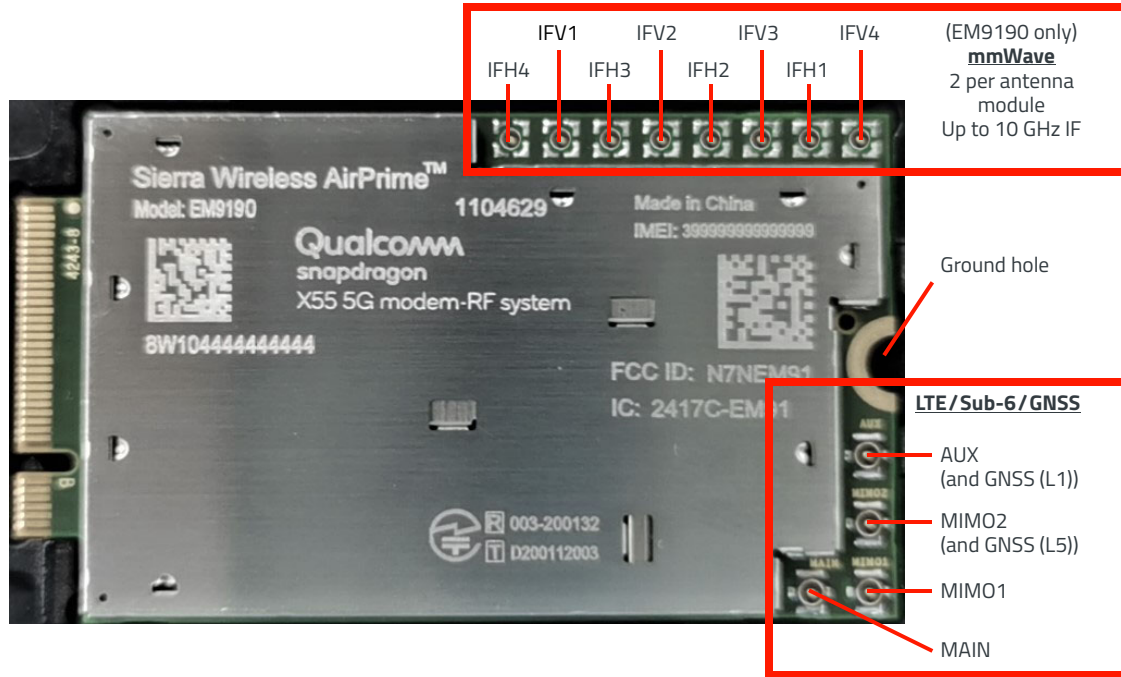

Figure 3-1: Module RF Connectors
EM91 modules include the following antenna connectors (Figure 3-1):
- Connect to system ground using the ground hole shown in Figure 3-1 on page 41.